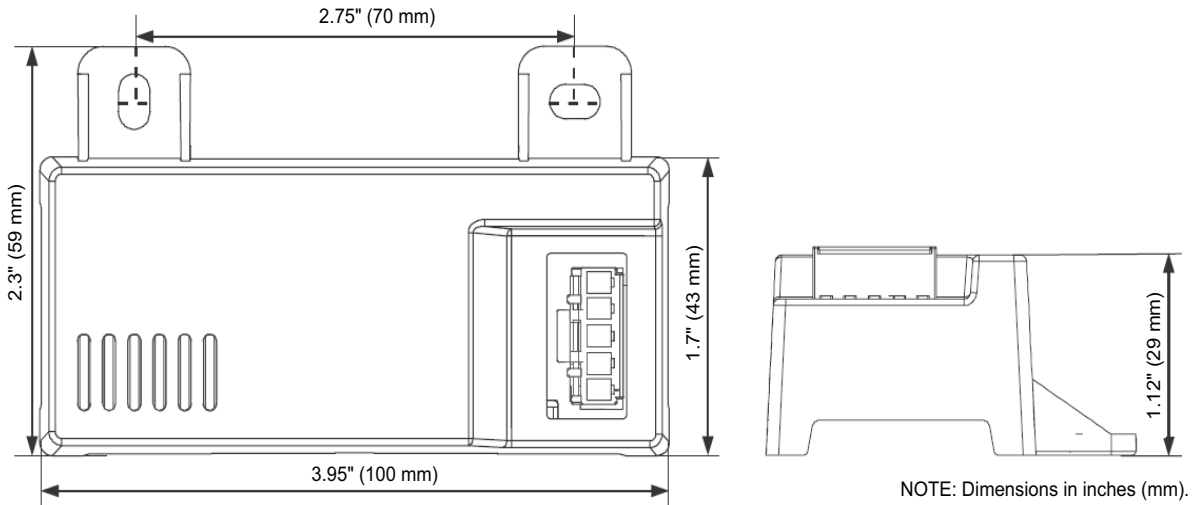
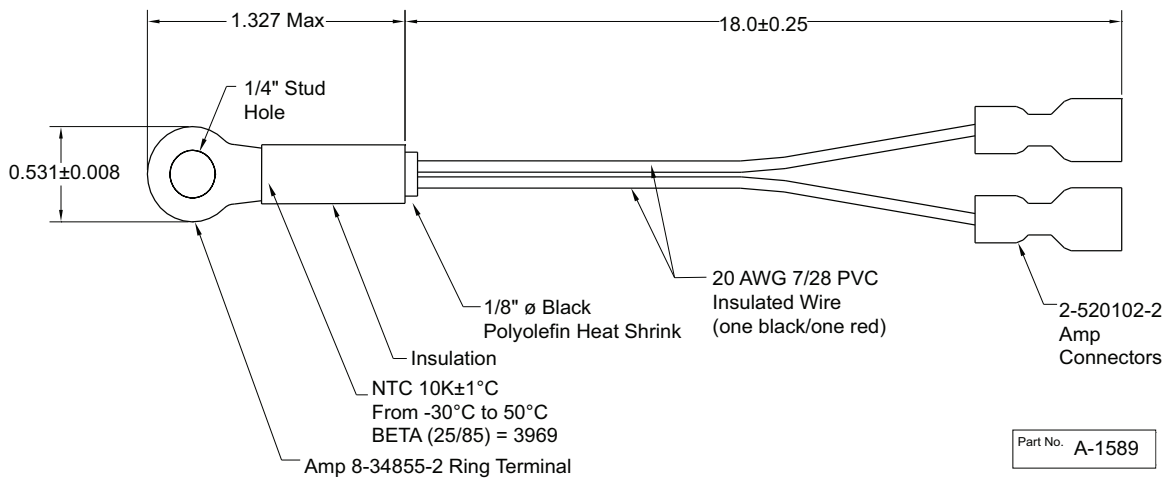
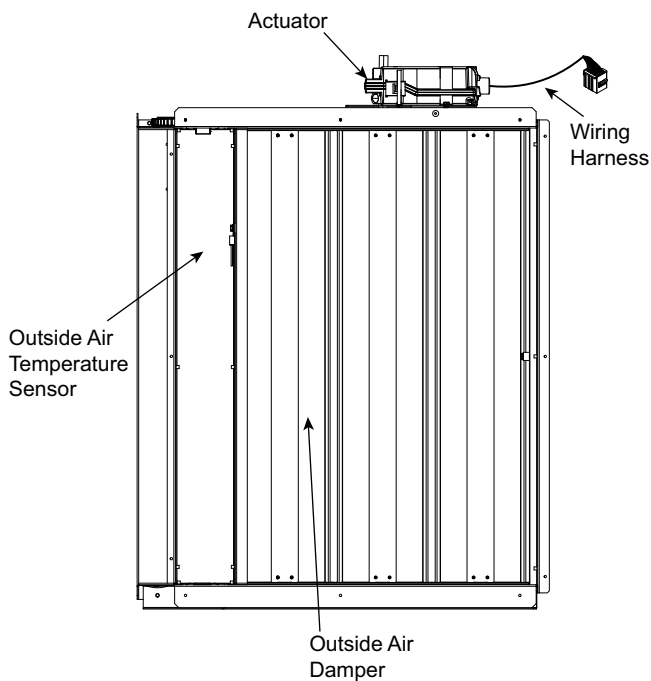

Fig. 94 – HH57LW001 Dimensional, Connection and Switching Information
Fig. 95 – HH79NZ039 Dry Bulb and Mixed Air Sensor Wiring
Fig. 96 – EconomizerONE Component Locations (CRECOMZR108A00 Shown)
When using the HH57LW001 enthalpy sensor (see Fig. 94) for outside air changeover, the existing HH79NZ039 dry bulb sensor (see Fig. 95) must be removed. The enthalpy sensor will be mounted in the same location as the dry bulb sensor (see Fig. 96). When the enthalpy sensor's OA (Outside Air) temperature, enthalpy, and dew point are below their respective setpoints, the outside air can be used for free cooling. When any of these are above the setpoint, free cooling will not be available. Enthalpy setpoints are configurable and create an enthalpy boundary according to the user's input. For additional details, see Fig. 97-98 and Table 41.
The optional enthalpy control sensor (P/N: HH57LW001) communicates with the POL224 economizer controller using the 5-wire harness, 48TC005213. The HH57LW001 sensor can be used as a single outside air enthalpy, a differential return enthalpy, or a differential return temperature sensor. Refer to the base unit control wiring diagrams found earlier in this book to wire the HH57LW001 enthalpy sensor for each option. Use Fig. 94 and Table 43 on page 76 to locate the wiring terminals for each enthalpy control sensor.
Economizers are shipped standard with an HH79NZ039 outside air dry bulb sensor (see Fig. 95). System default setting (high temp limit) is 63°F (17°C) and has a range of 48°F to 80°F (9°C to 27°C). Sensor is factory installed on economizer.
If installing the optional HH57LW001 enthalpy sensor, the HH79NZ039 dry bulb outside air sensor must first be removed. Wire sensor to harness 48TC005213 and the (5) wires from the harness to the EconomizerONE harness in the return air chamber. Harness 48TC005213 has a 5-pin plug that connects directly to the HH57LW001 enthalpy sensor. Refer to the base unit control wiring diagrams earlier in this book for wiring connections. Refer to Fig. 94 and Table 43.